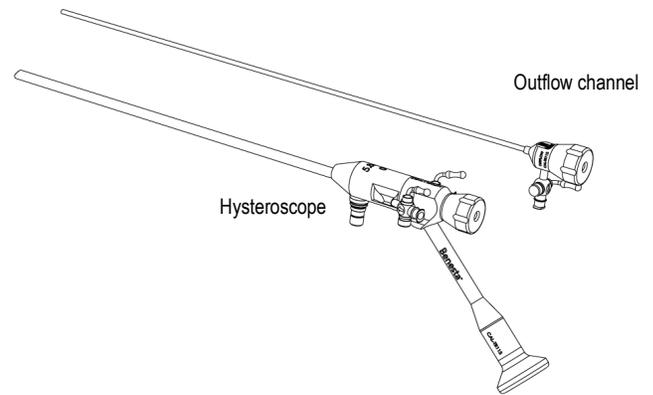
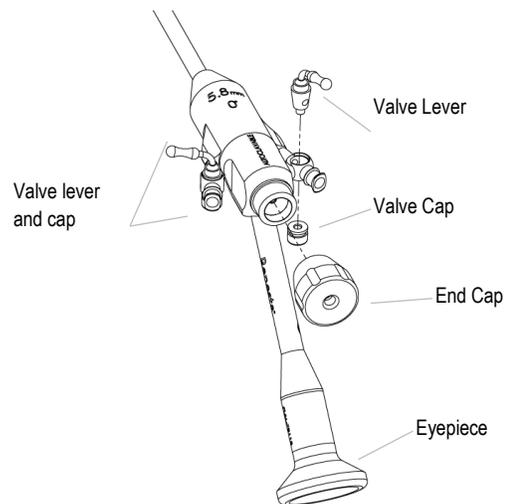

Figure 1. Benesta™ Hysteroscope and removable Outflow Channel
Figure 2. Benesta™ Hysteroscope components
- The reusable hysteroscope utilizes rod lenses for visualization and fibers for illumination. The hysteroscope includes a working channel designed to accommodate the respective Benesta™ Tissue Removal Device. (See Figure 1). The components of the Benesta Hysteroscope set are listed in Table 1 and the hysteroscope components are shown in Figure 2.